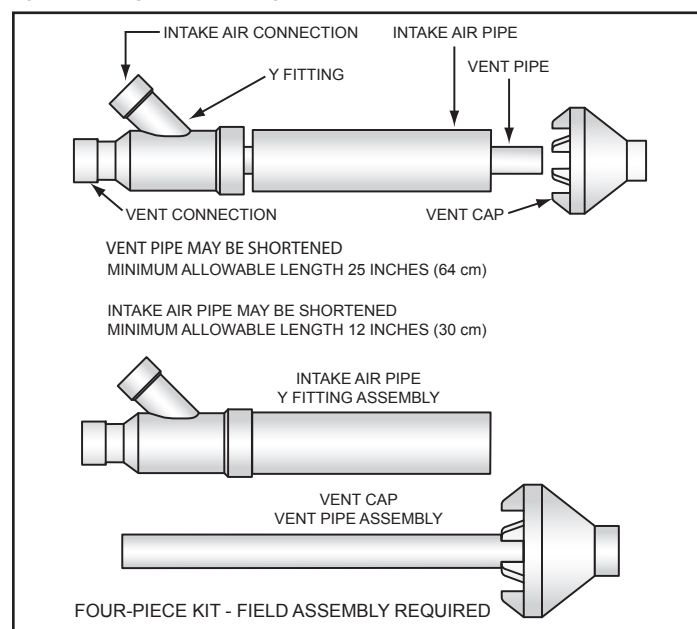
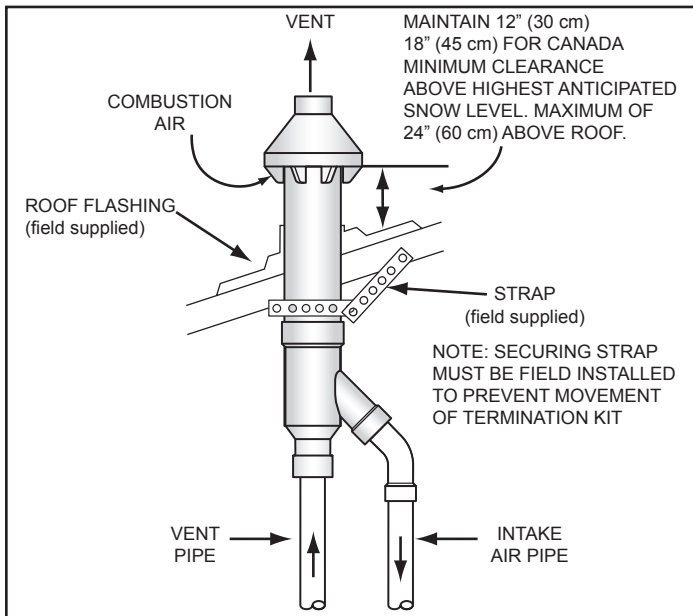
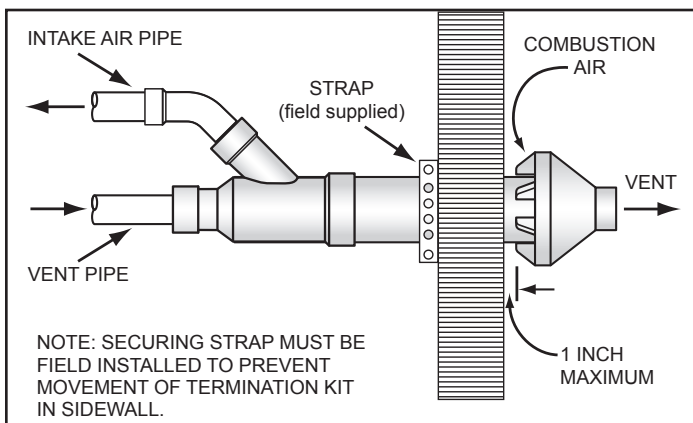

Figure 28. Concentric Termination Kit
Figure 29. Concentric Termination Clearances - Vertical Installation
Figure 30. Concentric Termination Clearances - Side-Wall Installation
3. When installing a concentric termination vertically through the roof; ensure that all exterior vertical clearance requirements for the concentric termination, shown in **Figure 29** (page 31) are being maintained. These clearances and those cited by local and national codes must be maintained.
- See **Figure 28** (page 30) for the minimum lengths allowed for the concentric termination.**Note:** When shortening the length of the termination, carefully measure and cut the larger (intake air) pipe first. Cut the same amount of pipe from the smaller (vent) pipe.
Assemble and install the concentric termination. Refer to **Figure 28**, **Figure 29** (page 31) and **Figure 30** for these instructions: